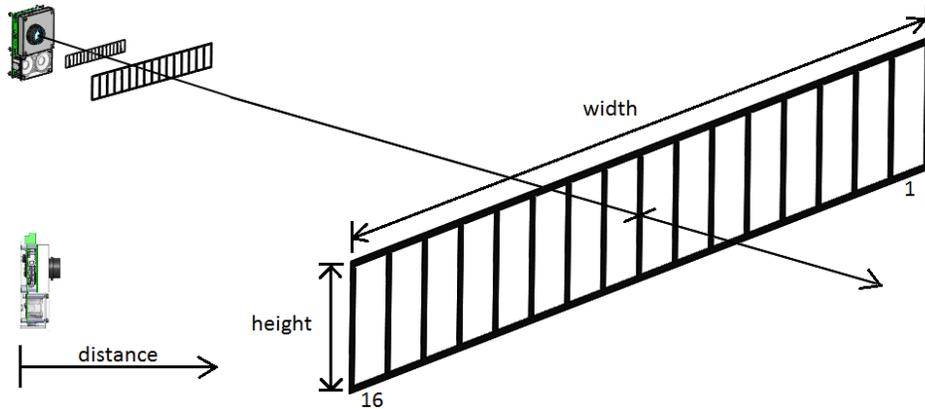

Figure 56: Beam pattern width (*left*) and height (*right*)
* These parameters present the sensitivity of the module across the beam width (segment amplitude efficiency) and height (amplitude vs. tilt). See Figure 56.